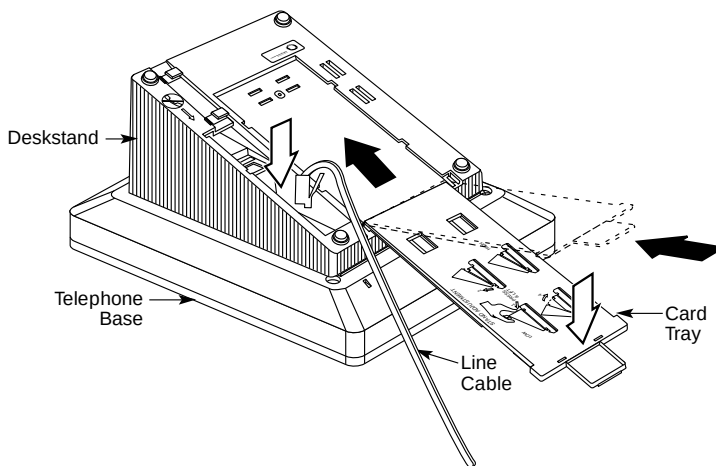

Figure 3-17. Replacing the User Card Tray and Line Cable
- 10. Replace the user card tray and line cable. See Figure 3-17.